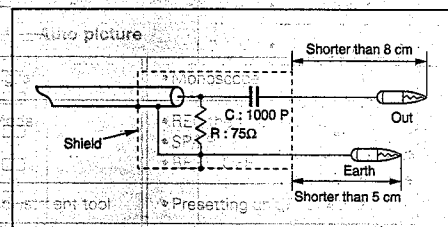

Fig. 3-3-1 Sweeper probe
- Use a sweeper probe as shown in Fig. 3-3-1.